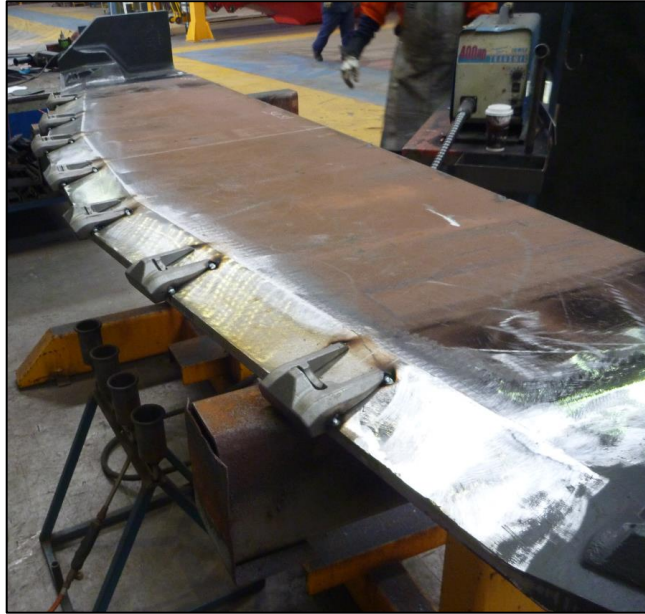

Figure 23 Boss part locations
- 2.13.4. Tack all Boss parts onto the lip at marked locations. Refer Figure 23.